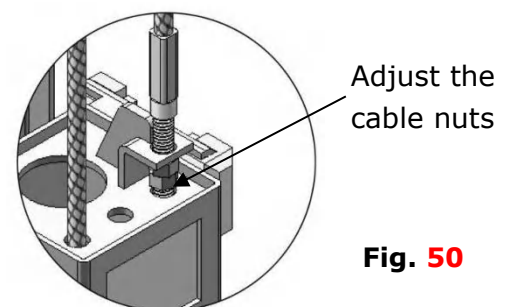

Fig. 50
1. Adjustment of sync cable (See Fig. 50)